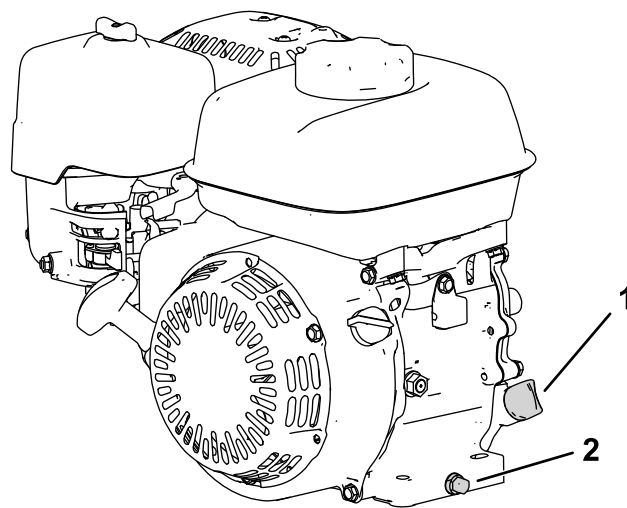

Figure 17
2. Position the machine so that the engine is level, and clean the area around the oil-fill tube (Figure 17).
3. Remove the drain plug (Figure 17).